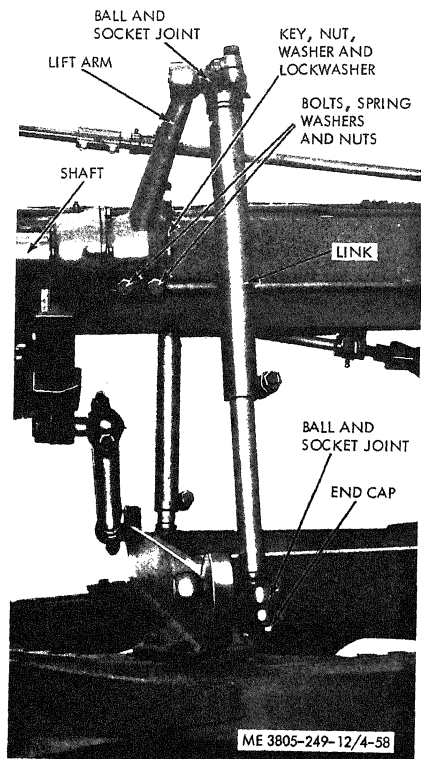

Figure 4-58. Lift arm and link.
- a. *Lift Arms Replacement.* Refer to figure 4-58.
- (1) Lower the blade to the ground.
- (2) Support the lift link assembly with a hoist.